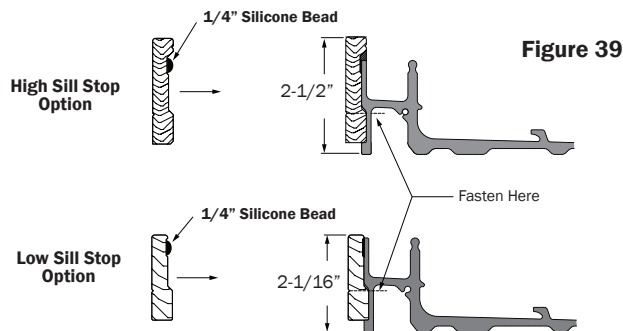

Figure 39
39. Before attaching sill stop to sill, apply a 1/4" bead of silicone along the full length of stop (Fig. 39).
40. Attach sill stop to sill using 1-1/4" Braid Nails, placed 8-10" apart, through the locator line on the stop (Fig. 39 & 40).